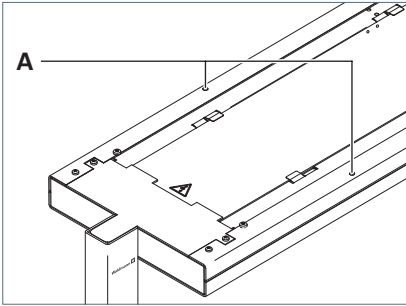

Fig. 12: Adjusting the light head
- ▶ To lift the light head, rotate the adjusting screws **A** counterclockwise, see Fig. 12.